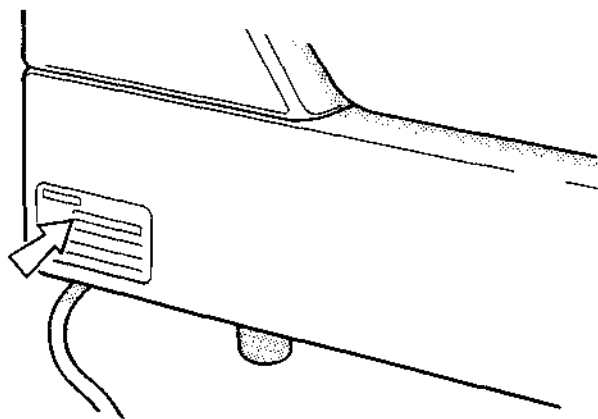

Figure 22. Diagnostic System Serial Number
- PDU Serial Number (base station LHS - Fig 22)